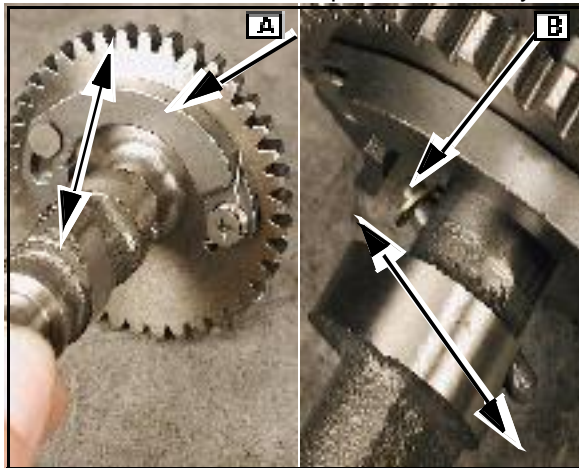

Fig. 4
1. Rotate the weight (A) against the spring and move the decompression pin ([B] Fig. 4) back and forth. Pin should slide easily through camshaft.